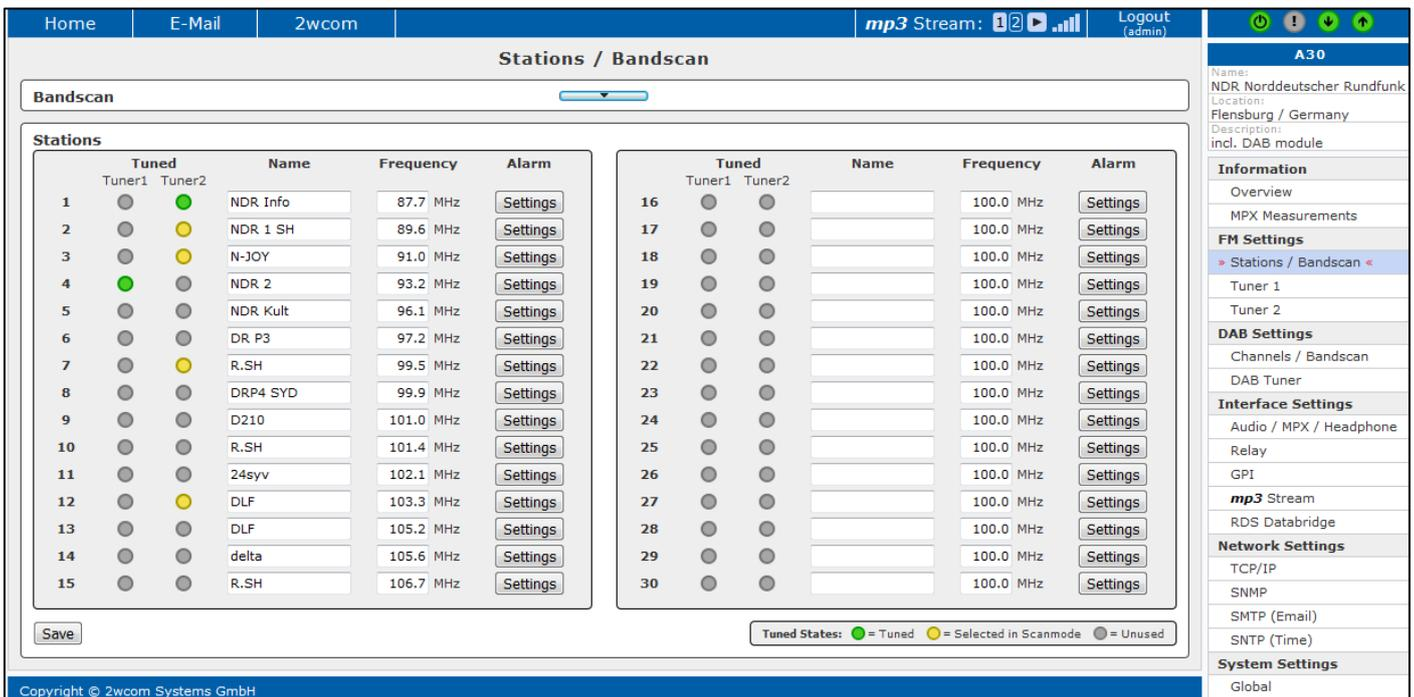

Fig. 11: Configuration of stations
- Define names for each station that should be scanned, monitored and/or modulated. The length of the station name is max. 19 characters (see Fig. 11).